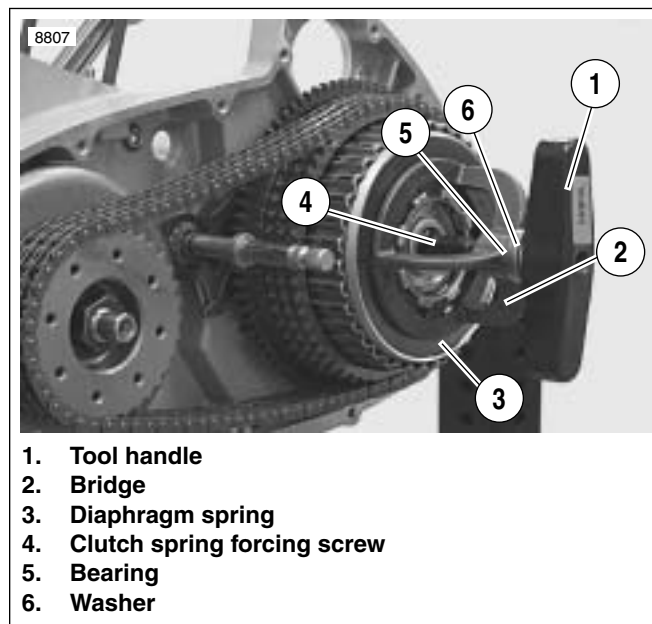

Figure 6-13. Compressing Clutch Diagram Spring
4. See Figure 6-13. Attach tools to compress clutch diaphragm spring.